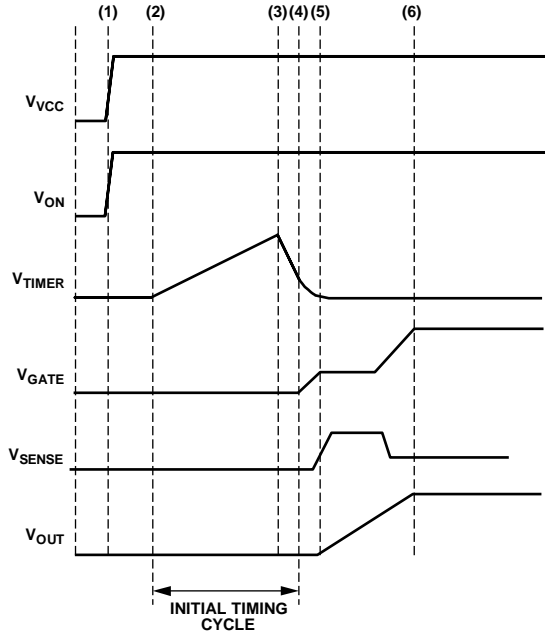

Figure 32. Startup (ON Asserts as Power Is Applied)
When VCC is first connected to the backplane supply, the internal supply (Time Point (1) in Figure 32) of the ADM1177 must be charged up. A very short time later (significantly less than 1 ms), the internal supply is fully up and, because the undervoltage lockout voltage has been exceeded at VCC, the device comes out of reset. During this first short reset period, the GATE pin is held down with a 25 mA pull-down current, and the TIMER pin is pulled down with a 100  $\mu\text{A}$  current sink.
When the initial timing cycle terminates, the device is ready to start a hot swap operation (assuming the ON pin is asserted). In the example shown in Figure 32, the ON pin is asserted at the same time that VCC is applied, so the hot swap operation starts immediately after Time Point (4).